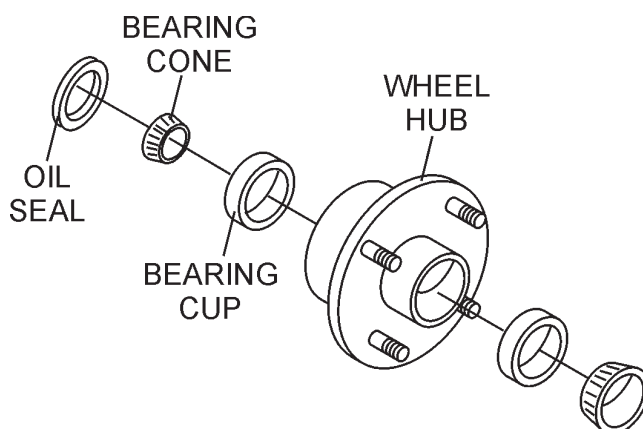

Figure 29. Wheel Hub and Bearings
1. After every 3 months of operation, remove the hub dust cap and inspect the wheel bearings (Figure 29). Once a year, or when required, disassemble the wheel hubs remove the old grease and repack the bearings forcing grease between rollers, cone and cage with a good grade of high speed wheel bearing grease (**never** use grease heavier than 265 A.S.T.M. penetration ("No. 2.")
2. Fill the wheel hub (Figure 29) with grease to the inside diameter of the outer races and also fill the hub grease cap. Reassemble the hub and mount the wheel. Then tighten the adjusting nut, at the same time turn the wheel in both directions, until there is a slight bind to be sure all the bearing surfaces are in contact.